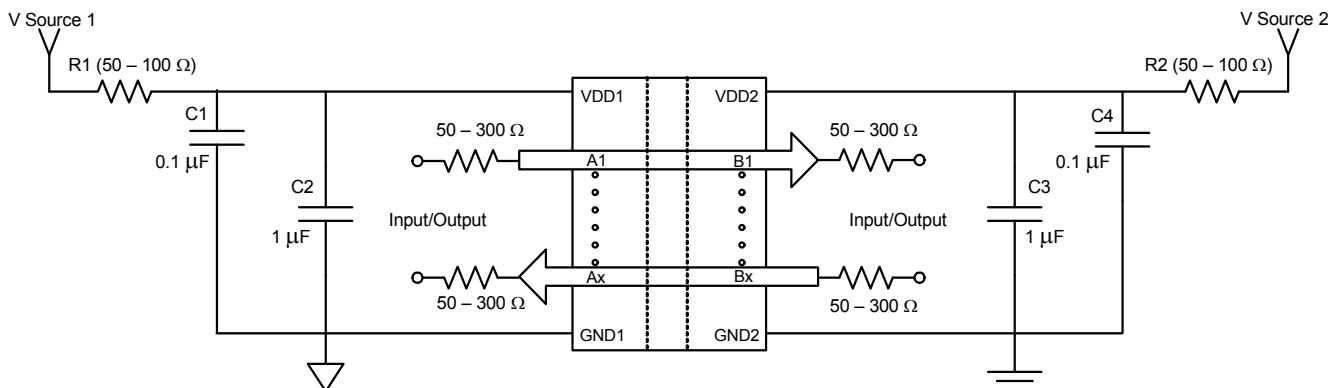

Figure 8. Recommended Bypass Components for the Si84xx Digital Isolator Family
Digital integrated circuit components typically require $0.1\text{ }\mu\text{F}$ (100 nF) bypass capacitors when used in electrically quiet environments. However, digital isolators are commonly used in hazardous environments with excessively noisy power supplies. To counteract these harsh conditions, it is recommended that an additional $1\text{ }\mu\text{F}$ bypass capacitor be added between VDD and GND on both sides of the package. The capacitors should be placed as close as possible to the package to minimize stray inductance. If the system is excessively noisy, it is recommended that the designer add 50 to $100\text{ }\Omega$ resistors in series with the VDD supply voltage source and 50 to $300\text{ }\Omega$ resistors in series with the digital inputs/outputs (see Figure 8). For more details, see "3. Errata and Design Migration Guidelines" on page 23.
- Added Figure 8, "Recommended Bypass Components for the Si84xx Digital Isolator Family," on page 20.